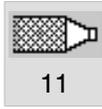

Fig. 4-41
2. Touch the channel key repeatedly until the colored frame around the key and the group letter under the channel symbol disappear. Refer to Fig. 4-41.